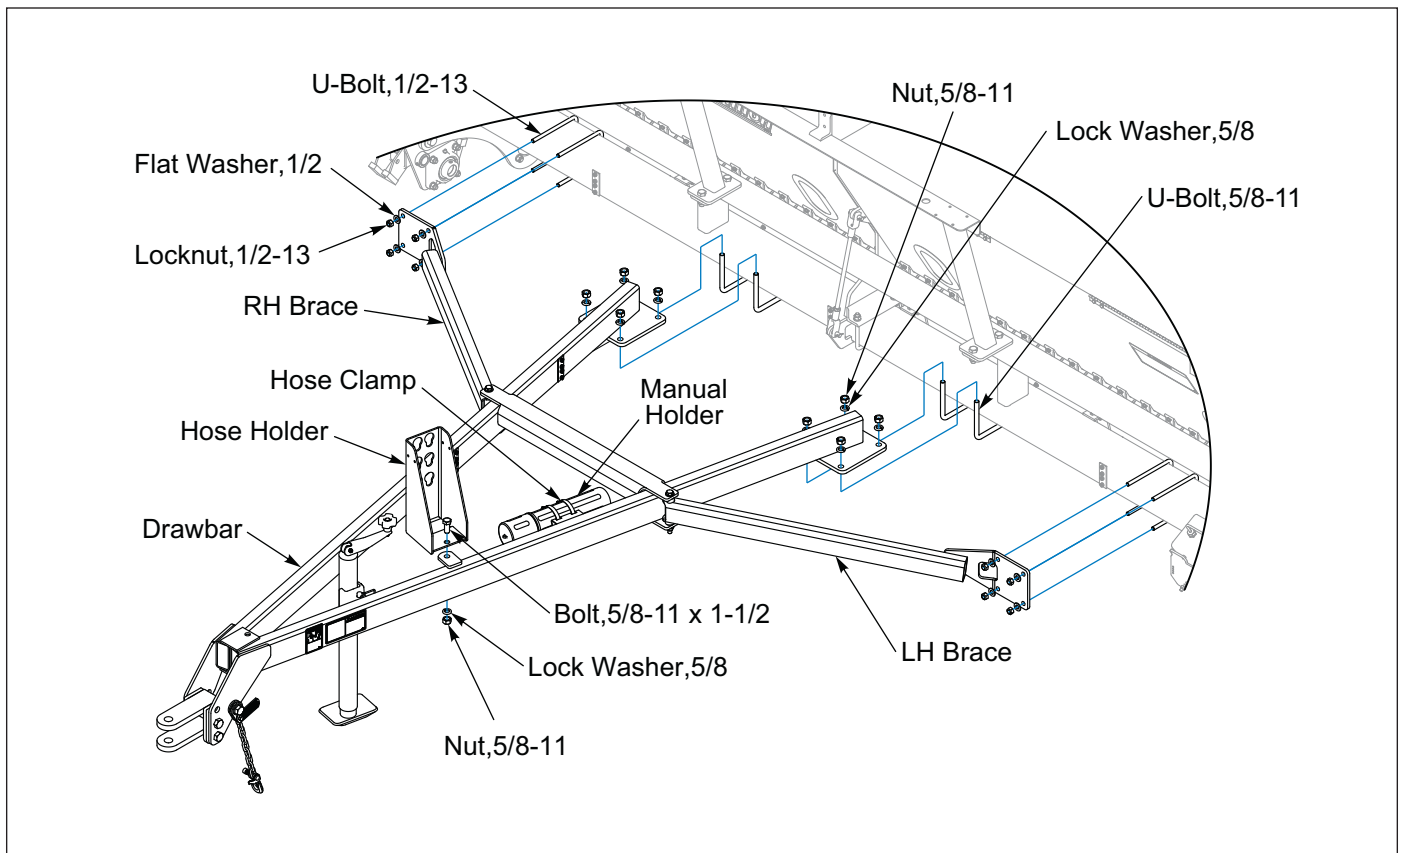

Figure 2-7: 12FT Drawbar
2. Center Drawbar in relationship with the Seed Box Center Bracket. Attach Drawbar to Seeder Frame Tube with 5/8-11 U-Bolts, Lock Washers and Nuts. Align Braces with the front of the Seeder Frame Tube and insert the Hydraulic Hoses through the Brace Bracket opening. Attach Braces to Seeder Frame Tube with 1/2-13 U-Bolts, Flat Washers and Locknuts. **See Figure 2-7.**